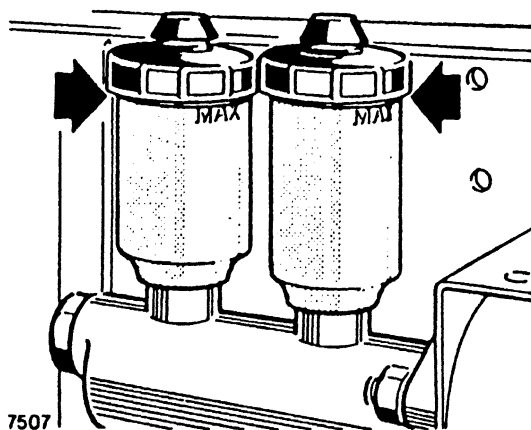

Fig 20 Brake hydraulic fluid levels
32. There are two separate transparent reservoirs (Fig 20) with screw-on caps. Both reservoirs have to be inspected and topped-up to the maximum fluid level indicator line marked on the reservoirs.